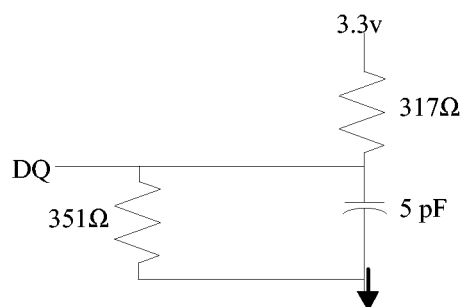

Fig. 2 OUTPUT LOAD EQUIVALENT
- Output loading is specified with  $C_L = 5pF$  as in Fig. 2.